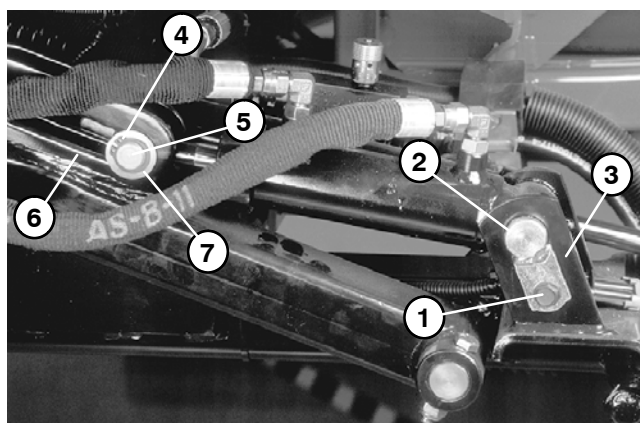

Figure 103
4. Remove front center lift cylinder (Fig. 103).
2. Install front center lift cylinder (Fig. 103).